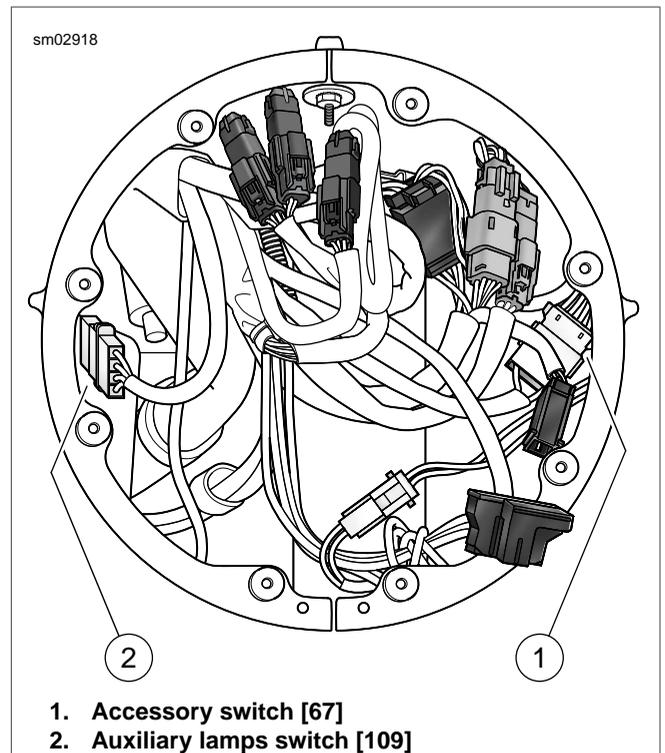

Figure 2-161. Headlamp Nacelle (FLHRC)
12. Reaching inside the headlamp nacelle, disconnect accessory switch connector [67] and auxiliary lamp switch connector [109]. See Figure 2-161.
2. Reaching inside the headlamp nacelle, connect accessory switch connector [67] and auxiliary lamp switch connector [109]. See Figure 2-161.